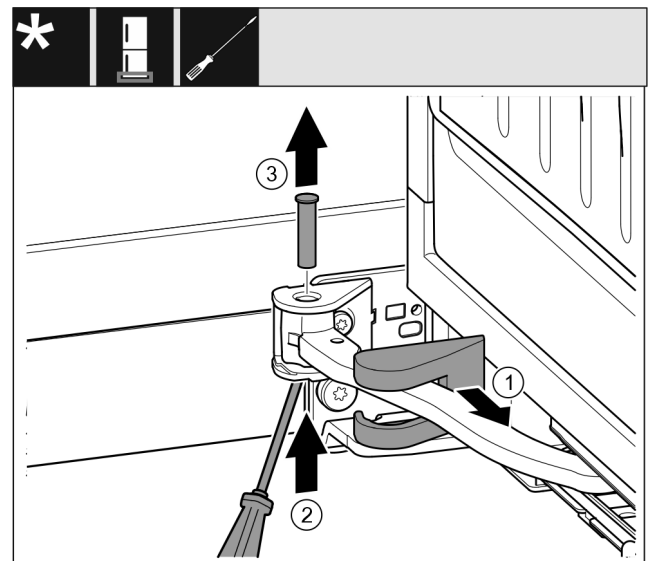

Fig. 13
- Remove the bearing bracket cover and push it along the hinge. Fig. 13 (1)
- Lift the bolt with a finger or screwdriver from below. Fig. 13 (2)
- Insert the screwdriver under the bolt head and remove it. Fig. 13 (3)